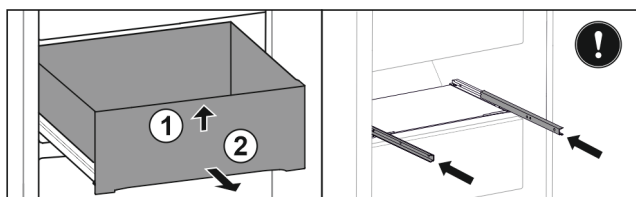

Fig. 40
- ▶ Lift up the drawer at the front Fig. 40 (1).
- ▶ Take out to the front Fig. 40 (2).